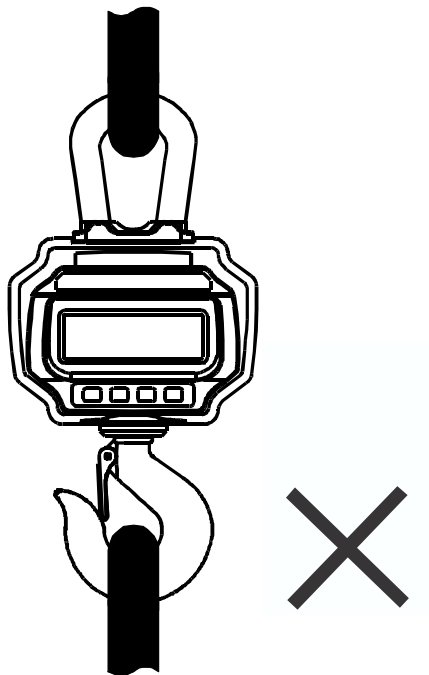

Figure 5.2 Oversized Interface Attachment
- 1 DO NOT attach oversized interface! Refer to Figure 5.2.